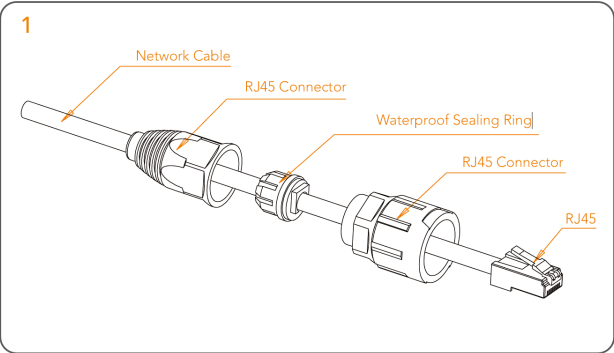

Figure 5-13 - DRM cable assembly
3. Tighten the aviation plug as shown in figure 5-13;